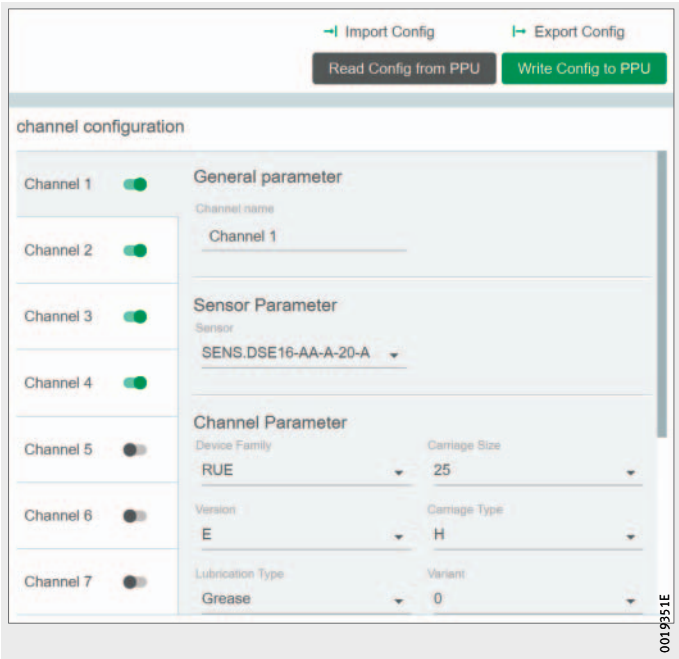

Figure 15
For the settings in the [Channel Configuration] field, see *table* and *Figure 15*, page 24:
- Now select the [Write Config to Device] button, Figure 15, to save the selected settings on the PPU.